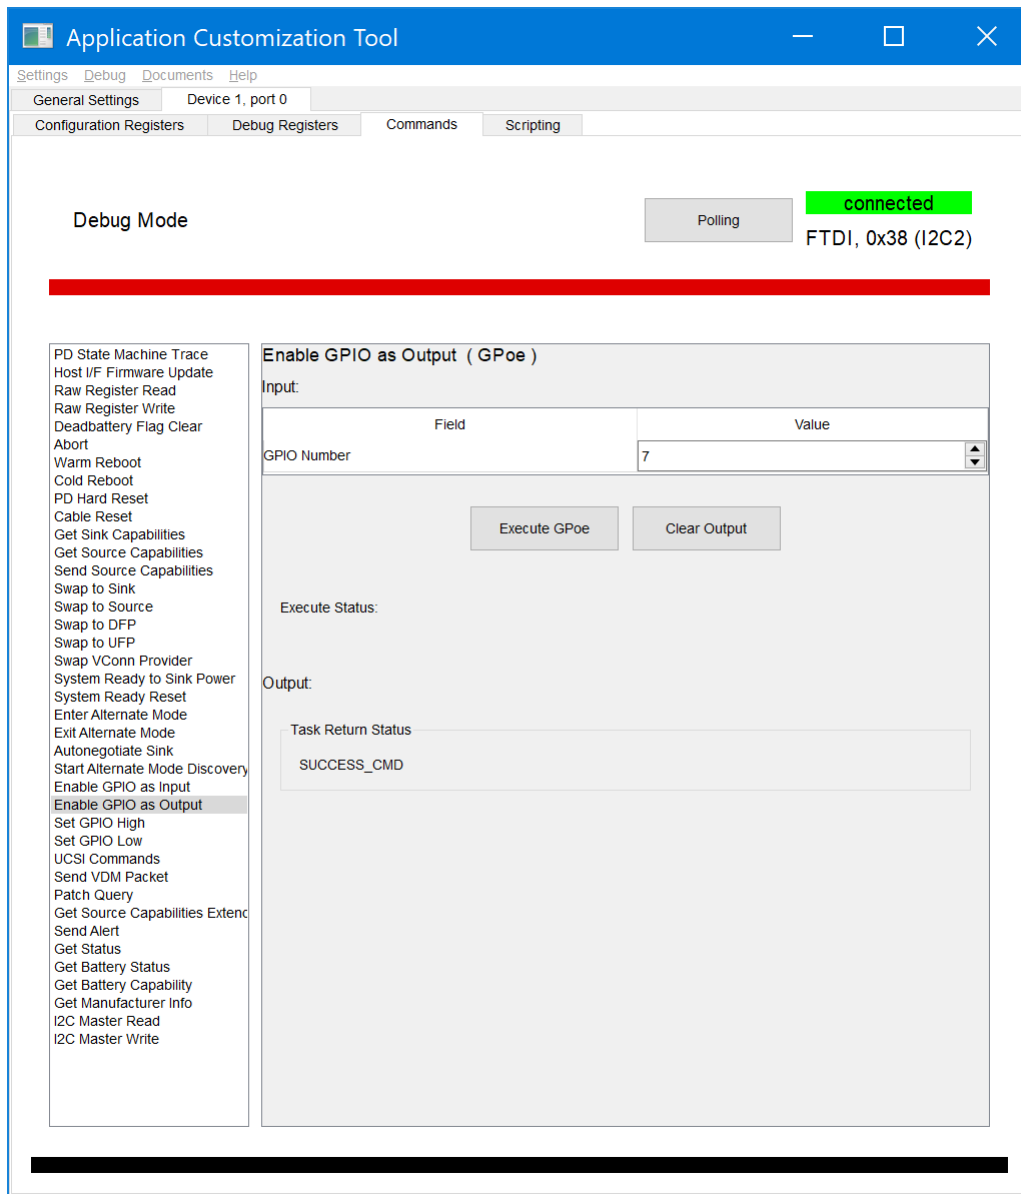

Figure 15. Using 'GPoe' 4CC Command
- First send 'GPoe' 4CC command as shown in Figure 15.